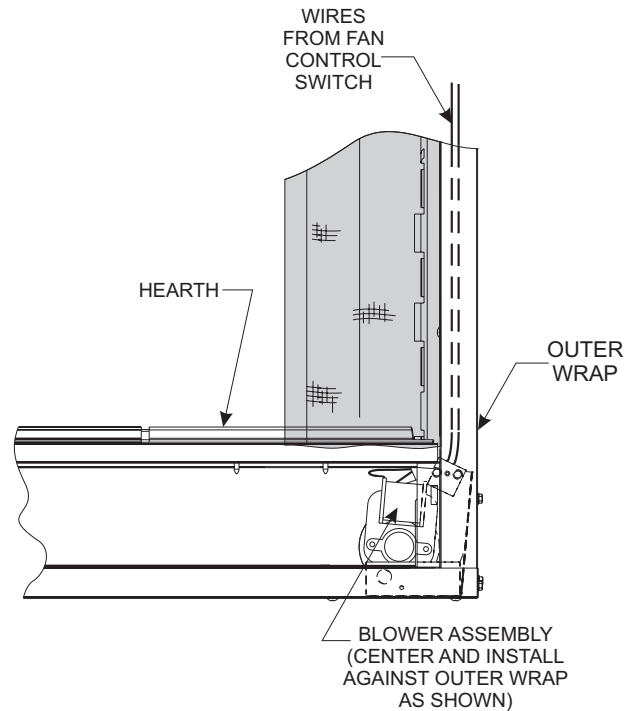

Figure 27
4. Insert blower assembly into interior, bottom of firebox. **NOTICE:** On peninsula models, the blower must be installed at the end which has the brick panel installed. Position blower assembly so that you align the notch on back of blower assembly with the center screw on side/end panel, then push the blower assembly against firebox outer panel. The blower wheel must be centered with the side/end wall of the firebox. The magnets on the back and bottom of blower assembly will sufficiently hold blower assembly in place. **See Figure 27.**
8. To complete the installation, plug the power cord into the junction box receptacle previously installed in the bottom of the fireplace. **See Figure 27.**